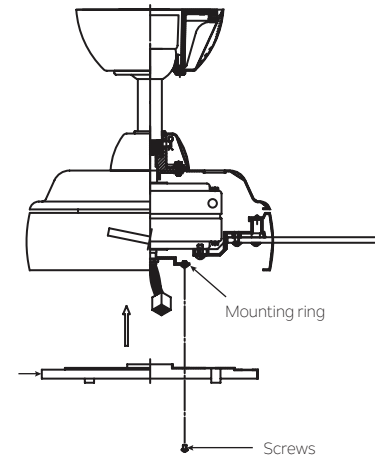

Fig. 15
**Step 1.** Loosen the two screws on the mounting ring attached to the motor shaft and “remove” and save the third screw. (Fig. 15)